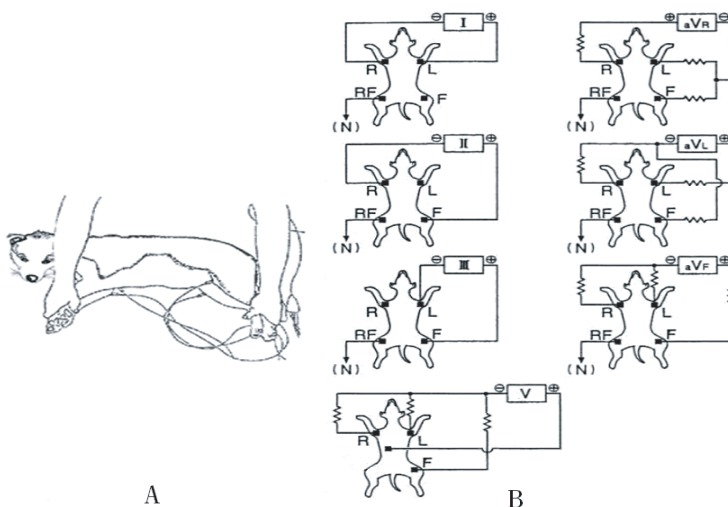
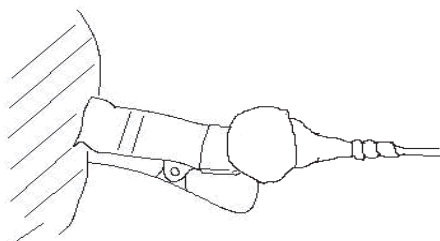

Figure 4-5
Figure 4-6
Connect the electrode to front right leg (**R/Red**), front left leg (**L/yellow**), back left leg (**F/green**) and back right leg (**N/black**), illustrated as below Figure 4-5(B) and Figure 4-6.